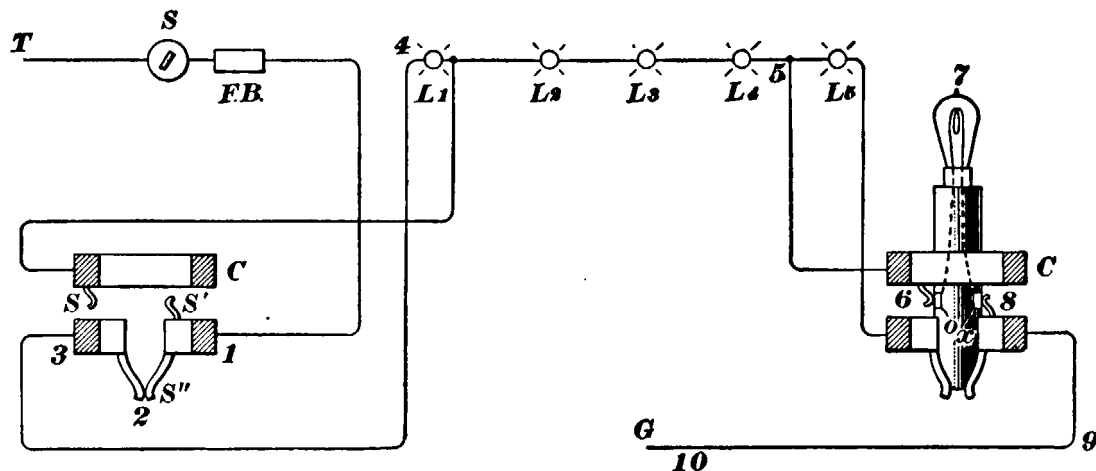

FIG. 56.
50. Changeable-Headlight Wiring Diagram.—Fig. 56 shows how two interchangeable headlights are wired in a five-lamp circuit; the headlight, of course, has a lamp 7 of its own, and according as the headlight is on one end of the car or the other, lamps L_1 or L_5 are cut out and replaced by 7. In this figure, the headlight is in place on the right-hand end of the car and car lamp L_5 is cut out. The path of the current is $T-S-FB-1-2-3-4-L_1-L_2-L_3-L_4-5-6-7-8-9-10-G$. In the side of the tongue of the headlight that goes into the